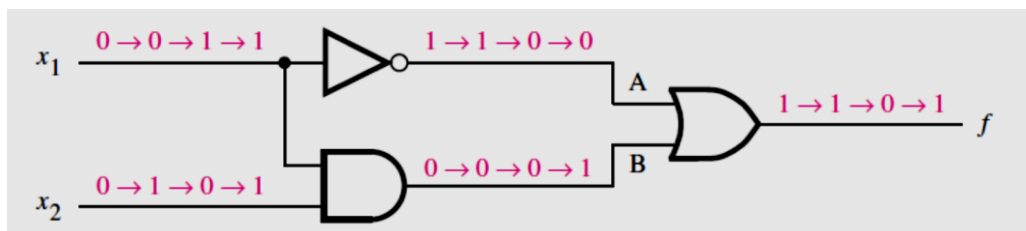
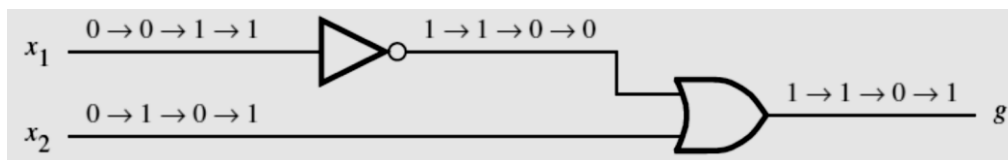

Figure 1.6
Figure 1.9
- To determine the functional behavior of the network in Fig. 1.6, we can consider what happens if we apply all possible values to input signals x_1 and x_2 . The analysis of these input values at various intermediate points is shown in Fig. 1.7.
- Going through the same analysis procedure, we find that the output 'g' in Fig. 1.9, changes in exactly the same way as f does in Fig. 1.6.